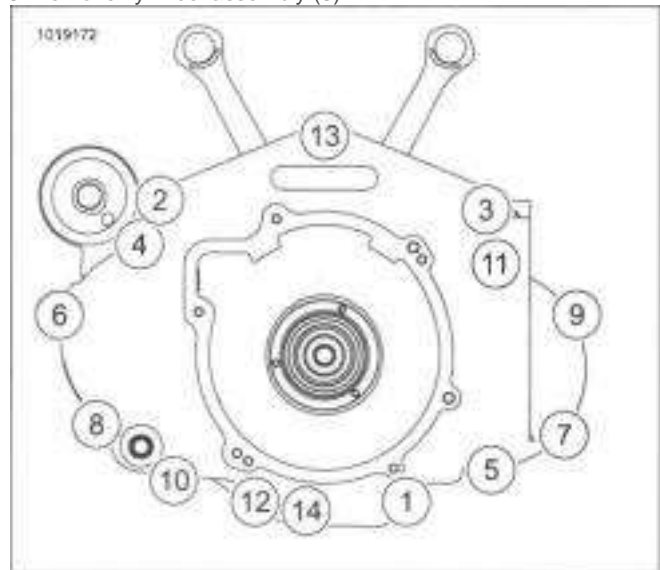

Figure 4-61. Crankcase Torque Sequence
- a. See Figure 4-61. Remove 14 crankcase screws in the sequence shown.
6. See Figure 4-61. Install 14 crankcase screws.